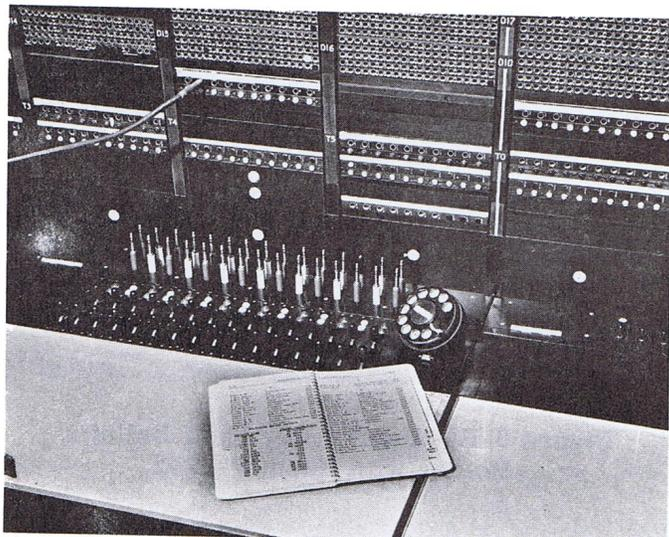

Figure 7 - Customer's Interdepartmental Directory
6.04 Where the number of special services is small, the frequently called number booklet or the customer's interdepartmental telephone directory may be adequate (see Figure 7).